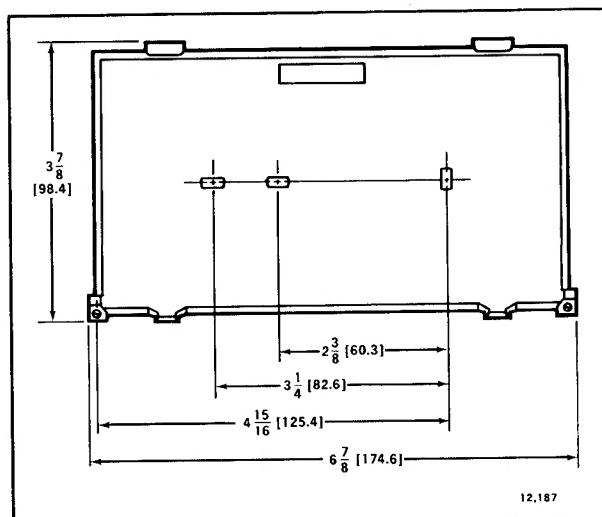

FIG. 1—T8600, T8601, T8602, T8603 WALLPLATE MOUNTING DIMENSIONS IN in. [mm IN BRACKETS].
**DIMENSIONS:** Thermostat (mounted on wallplate)—7 in. [178 mm] long, 4-1/16 in. [103 mm] high, 1-3/4 in. [44 mm] deep. See Fig. 1 for wallplate dimensions.